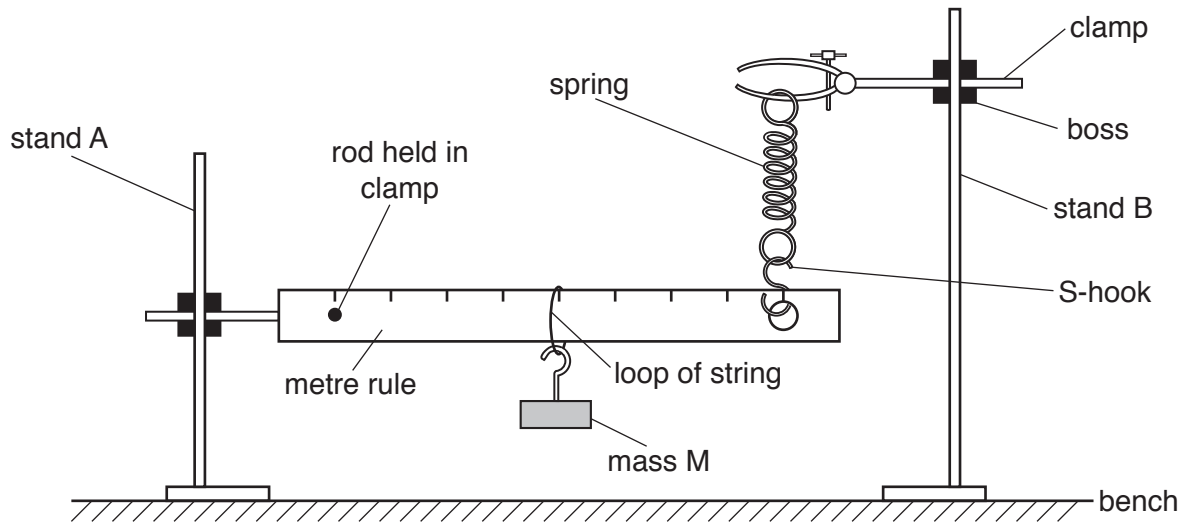

Fig. 4.3
(b) Set up the apparatus as shown in Fig. 4.3.
- (iii) Explain how you ensured that the metre rule was horizontal. You may draw on Fig. 4.3.